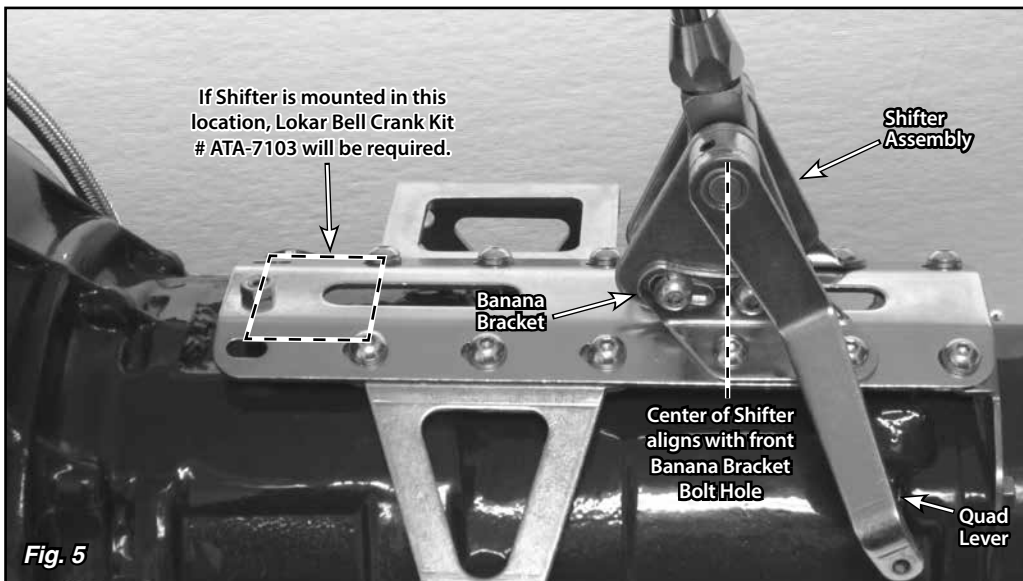

Fig. 5
**Step 8: (Continued)** Transfer that measurement to the transmission (or to the engine/transmission assembly if the engine is not installed in the vehicle). Mark that location on the shifter's main plate. The holes in the main plate that are closest to your mark are where the **FRONT** banana bracket bolts will need to be installed. **Fig. 5**
Any shifter mounting holes that do not line up with the side or rear mounting bracket bolts must use the provided 5/16"-24 x 1/2" button head bolts and nylock nuts (**NO lock washers**). Make sure the shifter assembly is mounted using all four bolt holes. **Do not use any other length bolts. Fig. 5**
**NOTE:** If mounting the shifter assembly all the way forward using the four bolt holes at the very front of the main plate, a **Bell Crank Kit (Lokar Part No. ATA-7103, sold separately)** will be required. **Fig. 5**